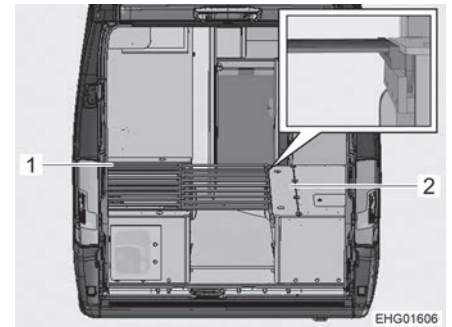

Fig. 84 During conversion
- Slightly lift the slatted frame of (Fig. 84,1) the left-hand bench and pull out the slatted frame pull-out.
- Open the bedding box cover (Fig. 84,2) on the right bench.